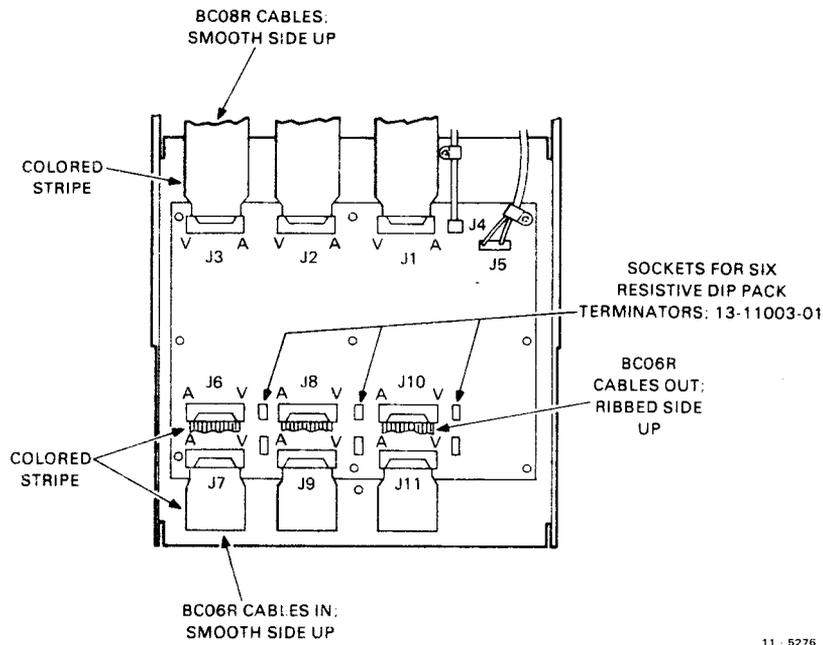

Figure 3-7 Cable Orientation on M8928 MTA Module
3.4.3.2 TU45 Transport – An M8928 magnetic tape adapter board (MTA) is used to interface the TM03 to a TU45 tape transport. The MTA board is located on a shelf just above the TM03 (Figure 1-3). To cable up the M8928 MTA board, connect the three BC06R slave bus cables from the TM03 to J7, J9, and J11 as shown in Figures 3-3 and 3-7. Insert the connectors so that the cable's smooth side is up and the colored stripe is on the left as shown in Figure 3-7. The three cables connecting to the first slave transport (which houses the TM03) are type BC08R and connect to J1, J2, and J3. The BC08R cables are also connected with the smooth side up and the colored stripe on the left.
If there is only one slave transport connected to TM03 No. 0, terminate the slave bus by inserting six resistive DIP packs (P/N 13-11003-01) into the MTA board. If another slave transport is daisy-chained onto TM03 No. 0, connect three BC06R slave bus cables to J6, J8, and J10. These three cables are connected with the ribbed side up but with the colored stripe still on the left (Figure 3-7).